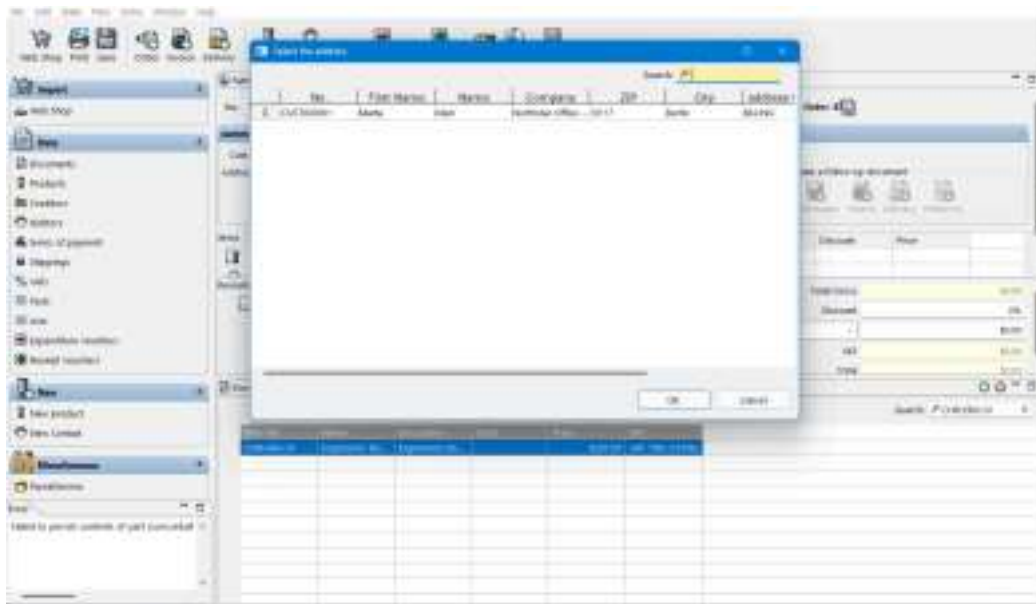

Figure 1. Address selector used to find and select an existing Debtor from the open Order.
2.3. Treat a **Debtor** as an exact match only when the visible **Company**, **First Name**, **Name**, **ZIP**, and **City** match the extracted values. If one exact row appears, select it and click **OK**. If results are conflicting or ambiguous, stop for manual review. If no exact row appears, click **Cancel** and continue with the creation branch below. See Figure 1.